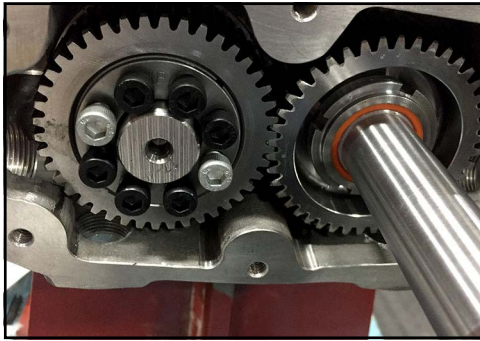

Figure 257 - Locking assembly
3. If the locking assembly does not self-release, tap the screws lightly with a mallet (or use thread jacking holes) to loosen the gear as shown in Figure 257.